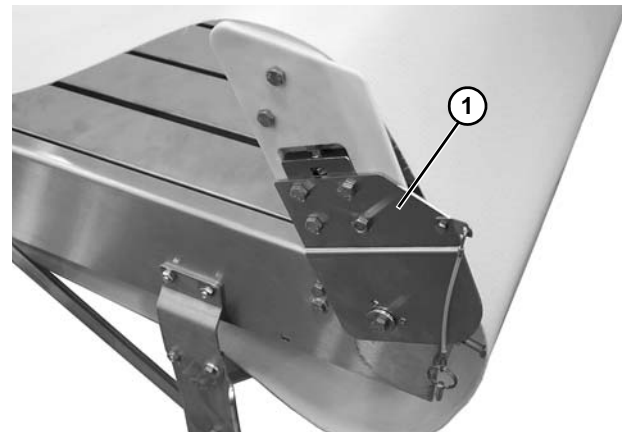

Figure 47
4. Tip up tail (Figure 47, item 1).